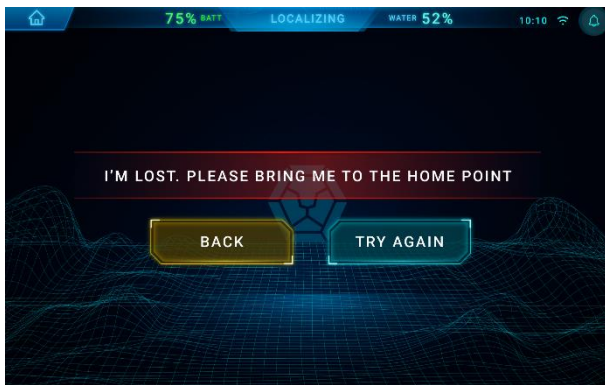

Fig 10
14. If robot is lost, bring it to the 'HOME POINT' (Fig 10).